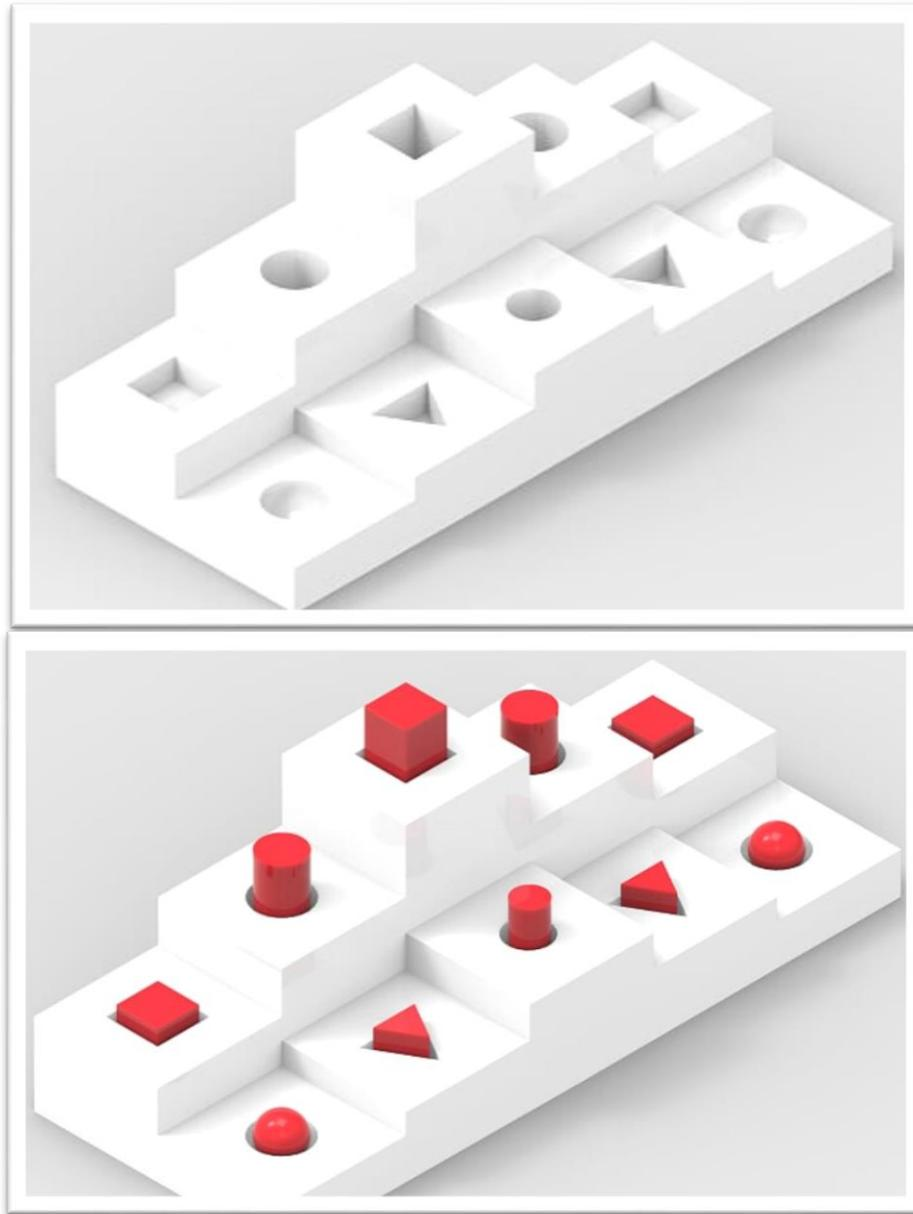
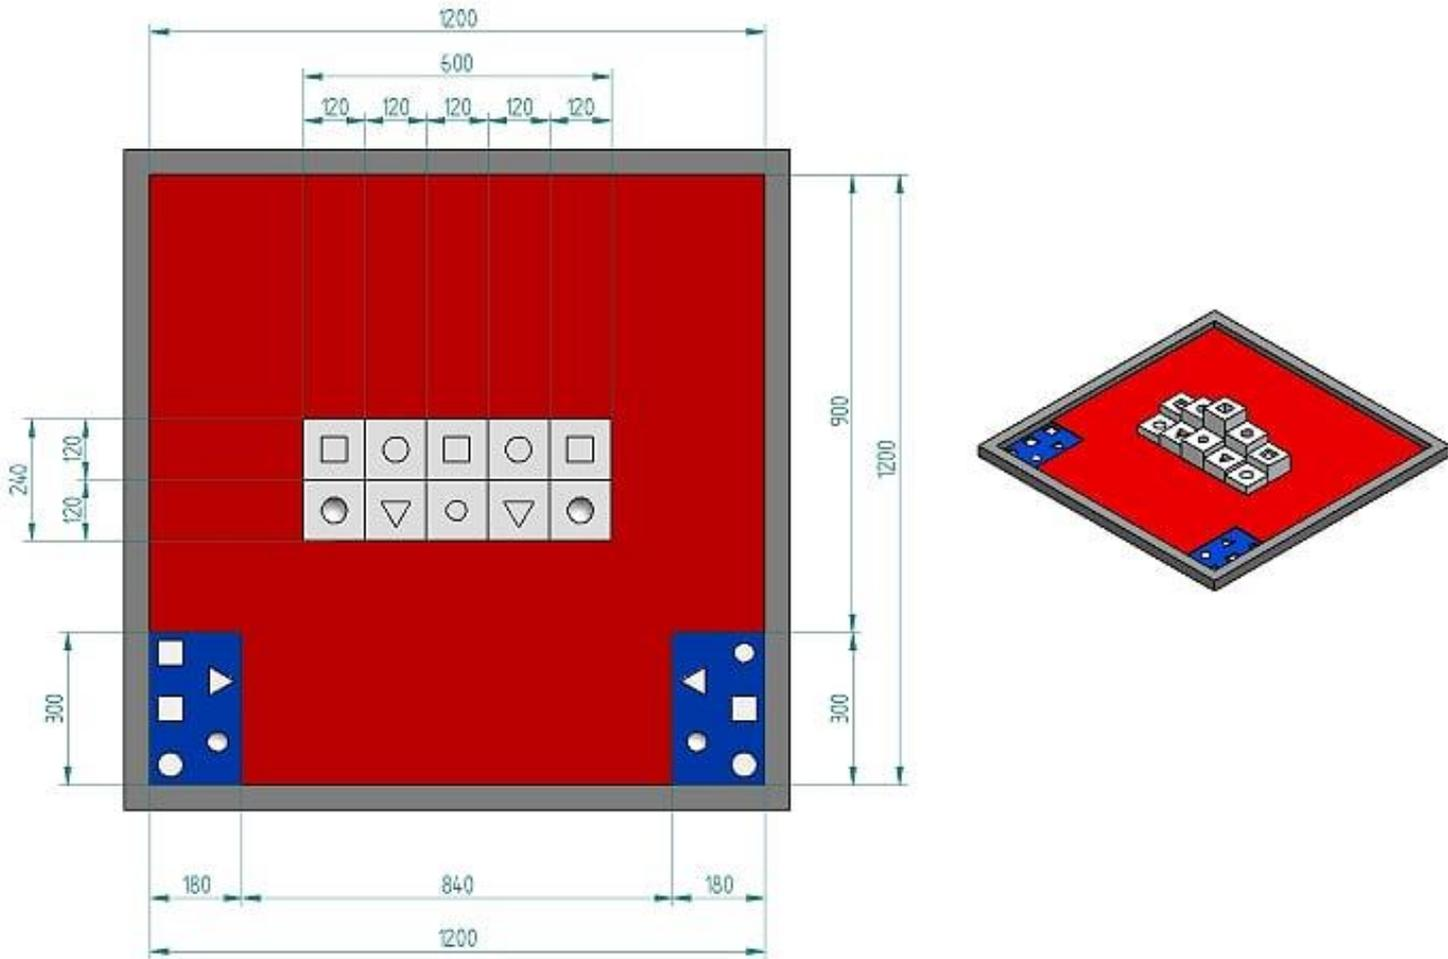

Figure 2- Platform and objects
Figure 3- Location of Platform
- 14) Robotic arm picks and places various objects (made by PLA plastic) to the platform which is shown at figure 2. Their dimensions are given at figure 3 and figure 4.